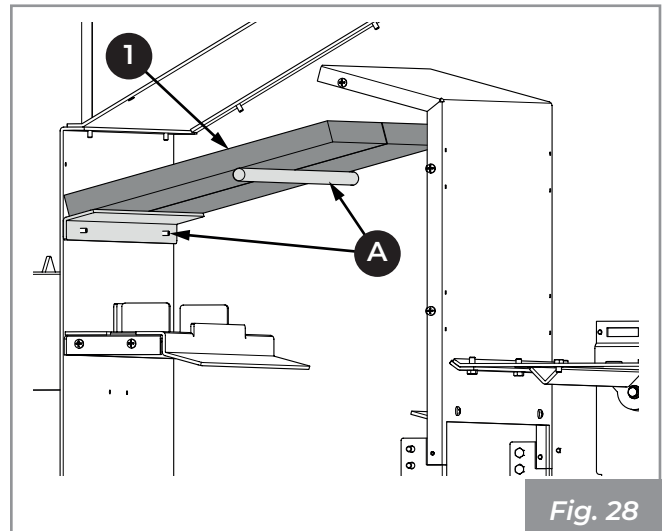

Fig. 28
- 2) Position the panels ((1) resting them on the appropriate supports (A) (Fig. 28).